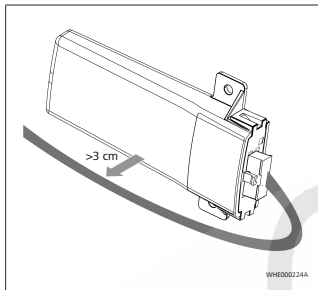

Fig. 6
- ▶ Mark the location of the ThermoConnect TCon2 in the drawing in Fig. 6.